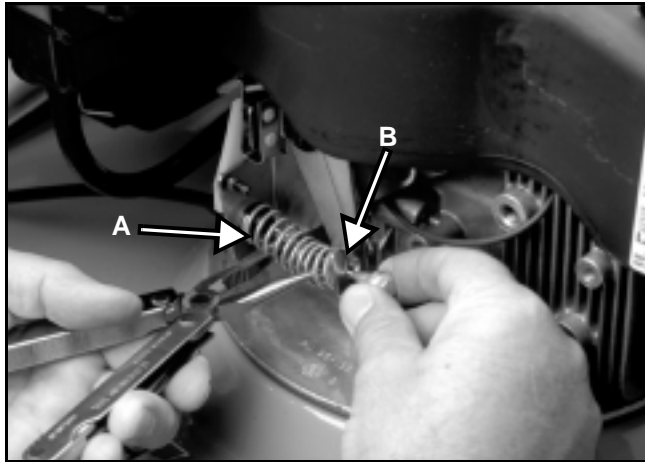

Figure 90
2. Secure the replacement brake plate to the engine with shoulder screw (7). Tighten it to 90 in. lbs. (9.2 Nm). Ensure that the brake plate pivots freely.
4. One end of the compression spring has a hook shape to it; that end hooks over an indentation in the brake plate. Squeeze the compression spring (A) and slip it over the cable between the brake mounting plate and brake plate. (See Figure 90).
5. Insert the leaded ball end of the cable into the vertical slot (B) of the brake plate. (See Figure 90.)